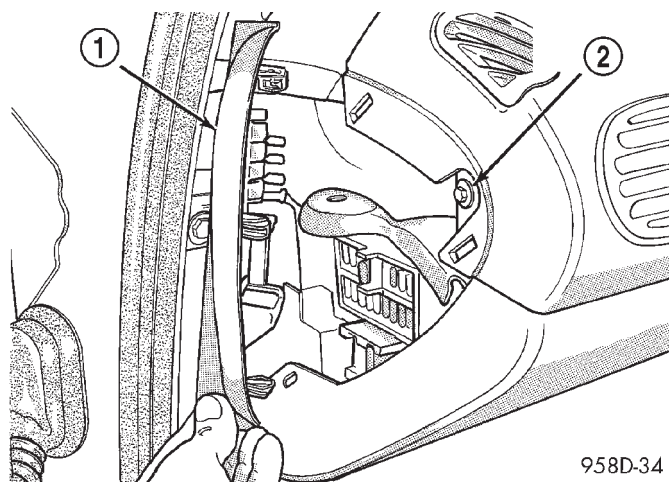

Fig. 15 Instrument Panel Top Cover—Left End
- (1) Disconnect negative cable from auxiliary jumper terminal on driver's side strut tower.
- (2) Remove fuse panel cover from left end of instrument panel. Remove screw holding end of instrument panel top cover (Fig. 15).